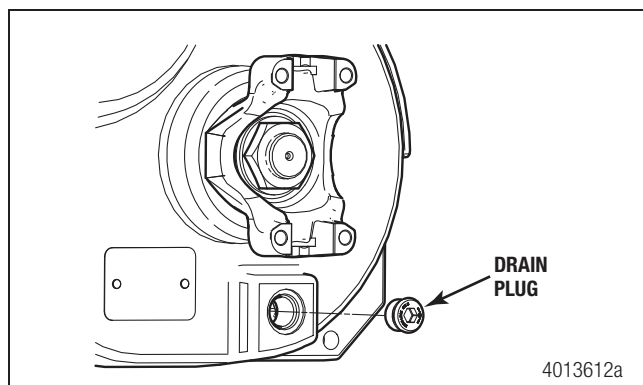

Figure 3.1
6. Remove the magnetic drain plug from the front transfer case cover. Drain and discard the oil correctly. Clean the magnetic drain plug. Figure 3.1.